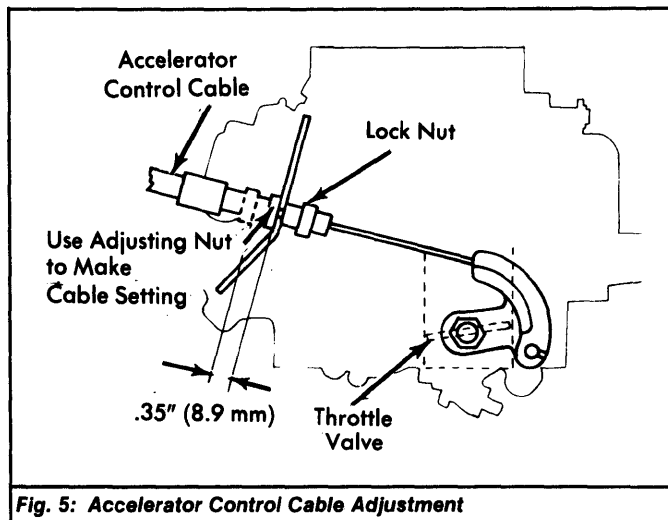

Fig. 5: Accelerator Control Cable Adjustment
- 1) After completing adjustment of accelerator pedal height, as described above, adjust the control cable setting. Turn the adjusting nut until throttle valve begins to open. See Fig. 5.